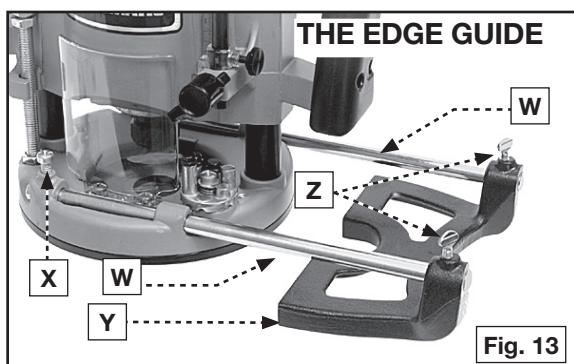

Fig. 13
To attach, insert the grooved end of the guide rods (W) Fig. 13, in holes in base and secure with two screws (X). (**NOTE:** These screws should engage the groove in the guide rod.) Slide the guide (Y) Fig. 13 on the rods, and adjust to the desired position. Secure with the two thumb screws (Z).